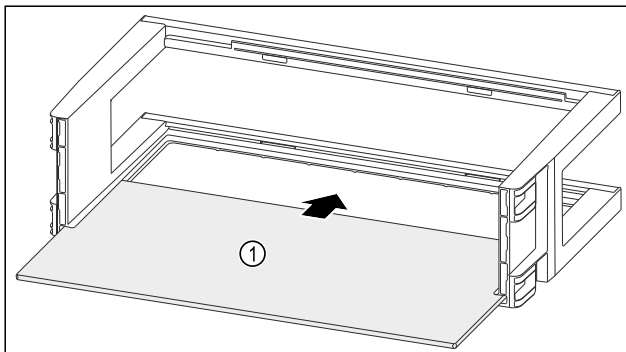

Fig. 93
- Push the shelf Fig. 93 (1) into the side recesses.